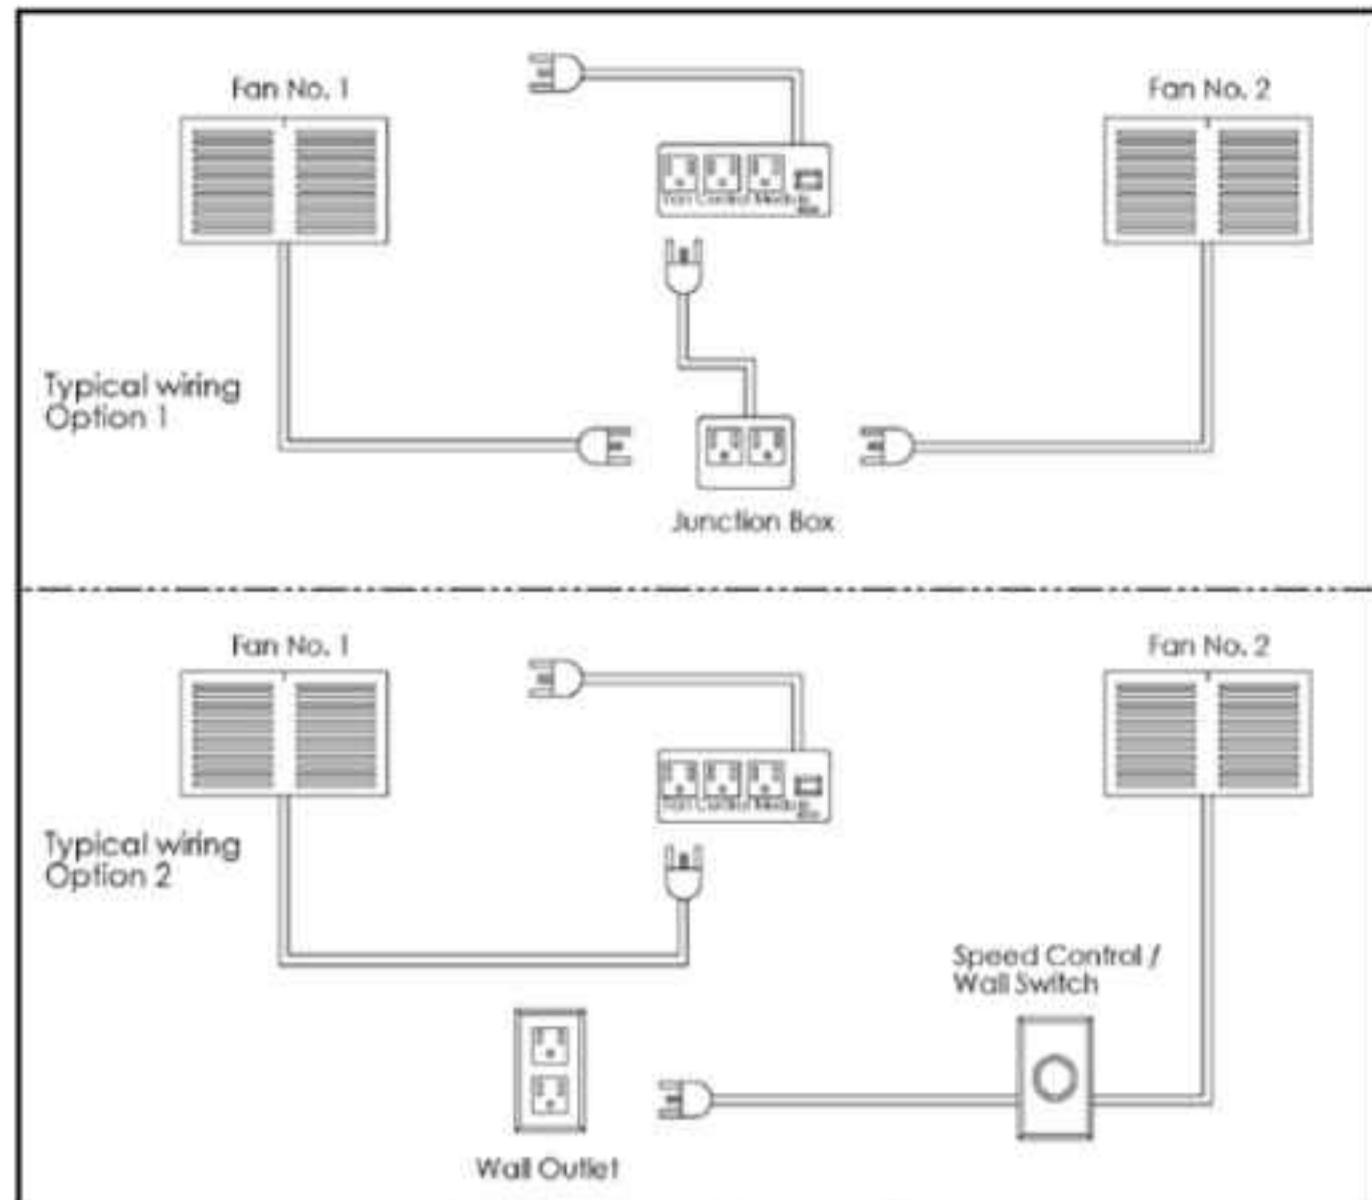

Figure 9: Fan wiring options.
g) For wiring options see Figure 9.